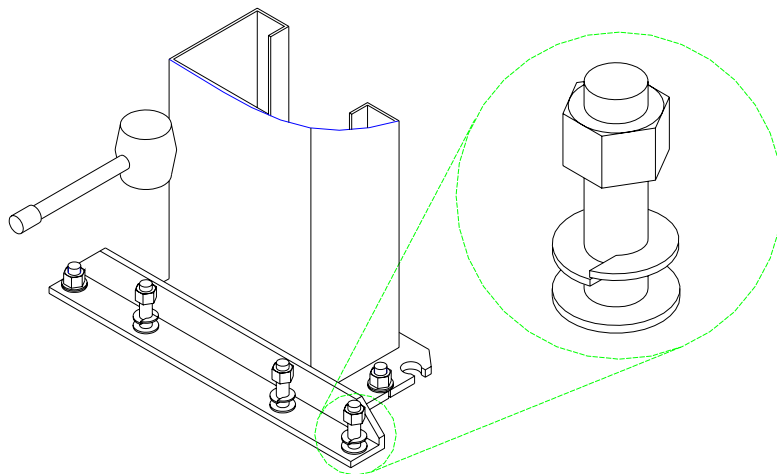

Fig.8
- E. Assemble the washers and nuts onto the anchor bolts. Thread the nuts onto the anchor bolts where the tops of the nuts are just above the top of the bolts, figure 8. Using a hammer, carefully tap the anchor bolts into the concrete until the washer rests against the baseplate. **Do not damage the nuts or threads.**